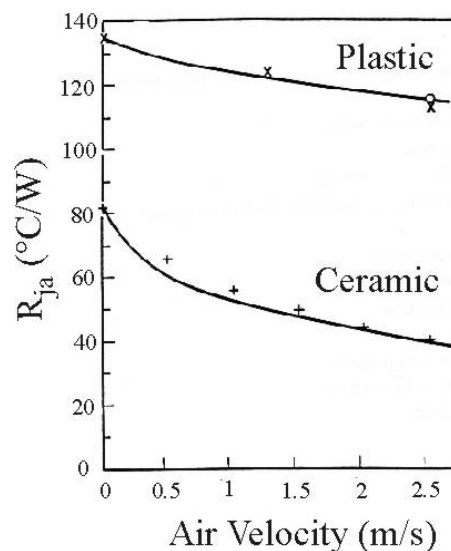

Figure 1 Thermal resistance of 16-pin DIP package as a function of air velocity from fan
- b. What is the junction temperature T_j for a chip dissipating 500mW when packaged in a plastic DIP16 without active cooling? (Notes: use data in Figure 1, assume ambient temperature = 20°C)
Without active cooling \rightarrow air velocity = 0m/s, hence from Fig.1, $R_{ja} = 137^\circ\text{C/W}$
From Fig.1 this implies the use of a ceramic DIP with a fan velocity $> 2\text{m/s}$.
- e.** *Explain the physical factors that govern the data in Figure 1*